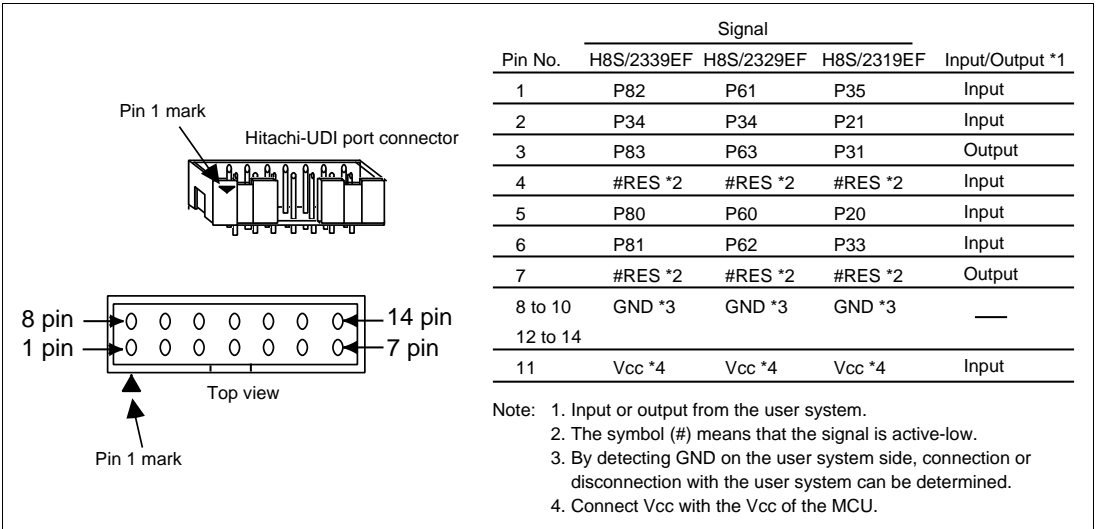

Figure 6.1 Pin Arrangement of the Hitachi-UDI Port Connector
Figure 6.1 shows the pin arrangement of the Hitachi-UDI port connector.
4. The emulator communicates with the H8S/2339F or H8S/2329F by using the pins shown in figure 6.1 (section 6.2). These pins cannot be used.